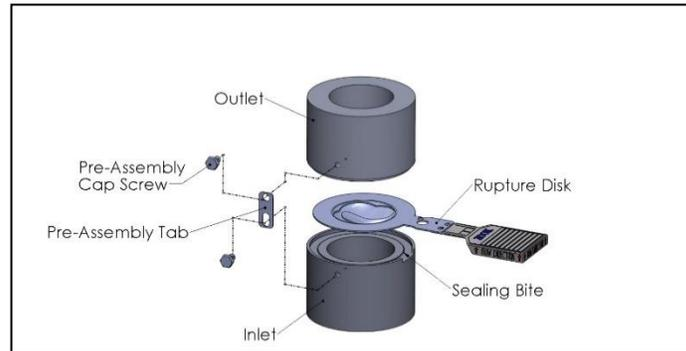

Figure 2. RAHI Holder
- (1) Fasten the assembly together by reinstalling the pre-assembly tabs and screws as shown in figure 2. The pre-assembly screws should be snug, NOT wrench-tight.